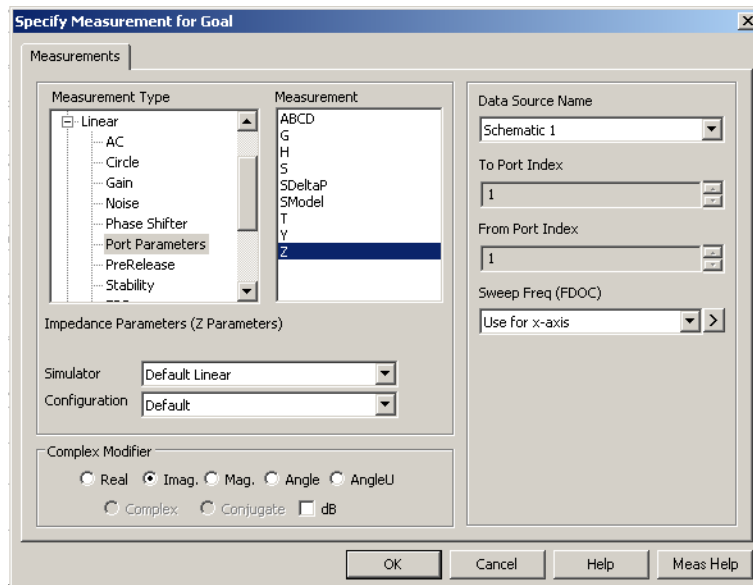

Figure 8.13: Chart 6 : Optimisation Measurement Dialogue Box
- Change your measurement box to look like figure 8.13.